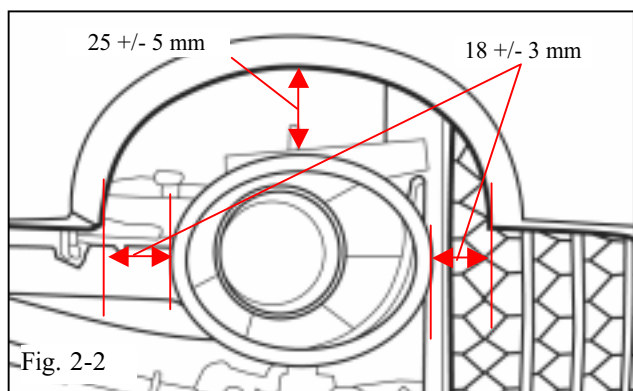

Fig. 2-2
- (1) Be sure that the shoulder of the bolts are correctly seated onto the flange of the Sport Muffler flange for proper alignment of the mating flanges.
- (e) Confirm the alignment of the tip so the there is a gap from the top of the tip to the fascia of 25 +/- 5 mm. Fig 2-2.
- (f) Confirm the alignment of the tip so the there is a gap from the sides of the tip to the fascia of 18 +/- 3 mm. Fig. 2-2.